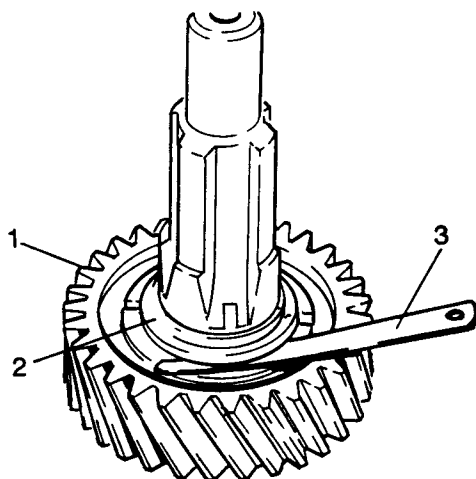

Fig H2.24
- (2) Refer to Fig H2.24. Fit the high gear (1) on the output shaft.
- (3) Fit the thrust washer and circlip (2).
- (4) Position an adequate length of tube over the shaft and push the circlip towards the gear, so as to eliminate any play of this circlip in its groove.
- (5) Maintain pressure on the circlip, measure the end float of high gear which should be between 0,10 and 0,20 mm (3).
- (6) The end float is adjusted by reducing the thickness of the thrust washer or fitting of a new washer. If the fitting of a new thrust washer does not reduce the end float to the desired limits change the gear and /or shaft.